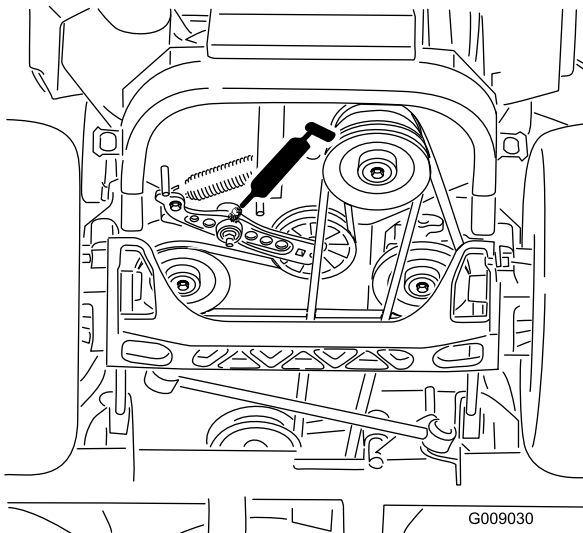

Figure 44
5. Grease the drive belt idler arm (Figure 44).